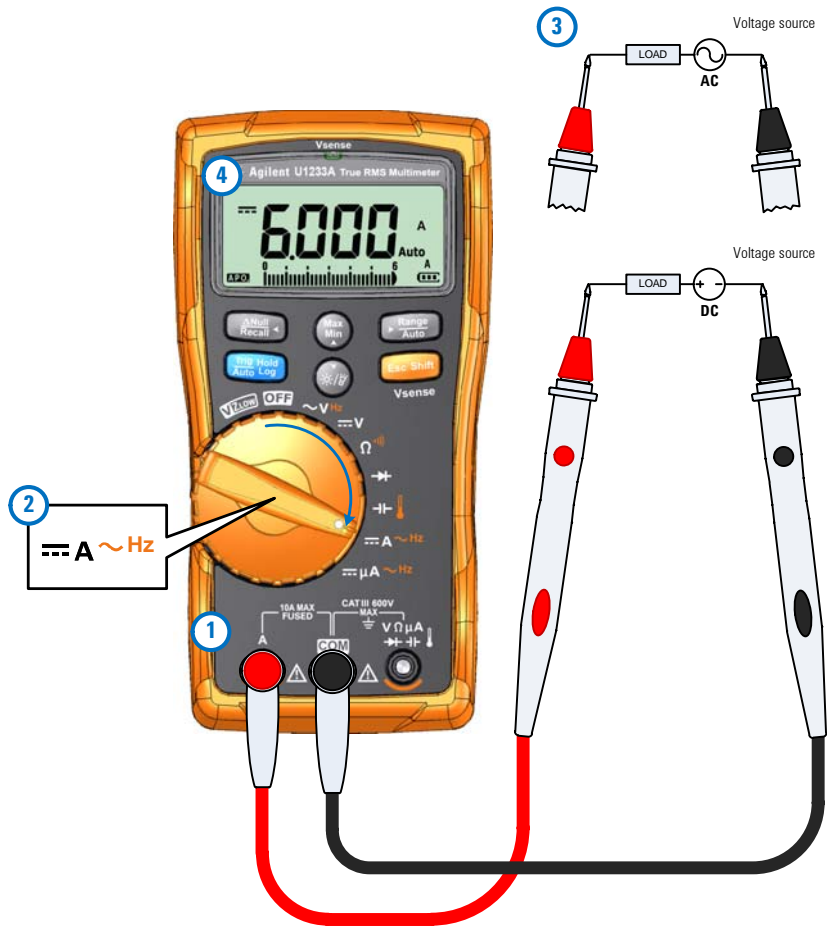
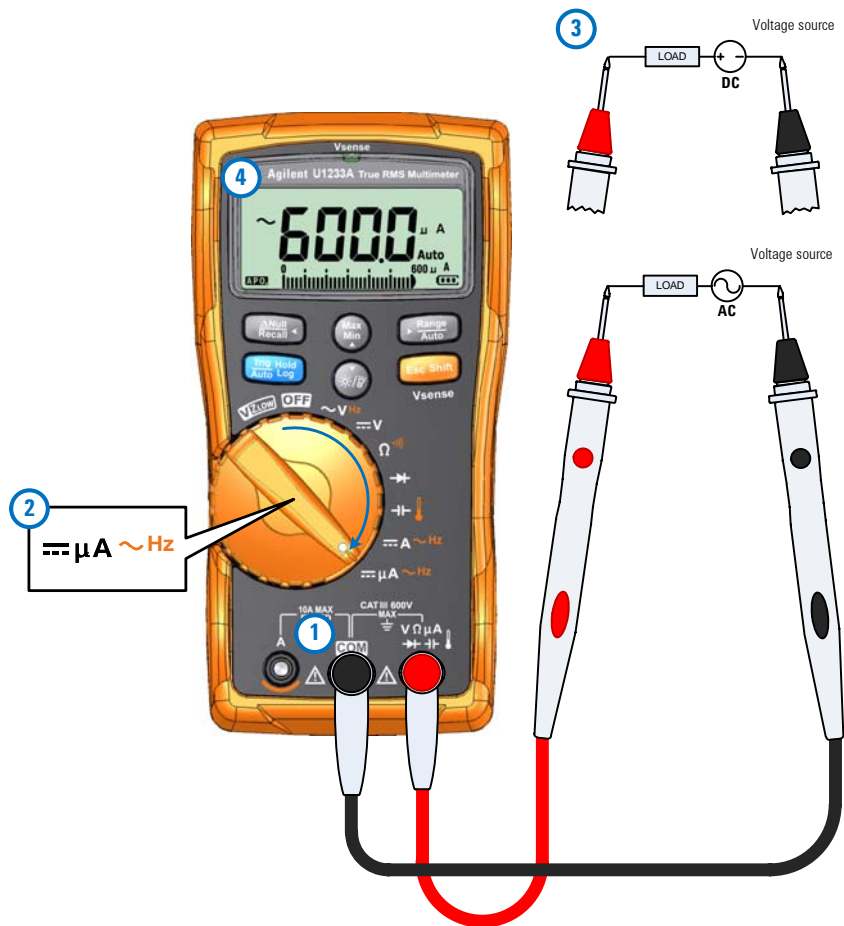

Figure 2-24 Measuring DC/AC current (up to A)
Figure 2-25 Measuring AC/DC current (up to μA)
Set up your multimeter to measure AC or DC current as shown in Figure 2-24 and Figure 2-25. Probe the test points and read the display.
- 1** Set up your multimeter to measure μA measurements as shown in **Figure 2-25**.